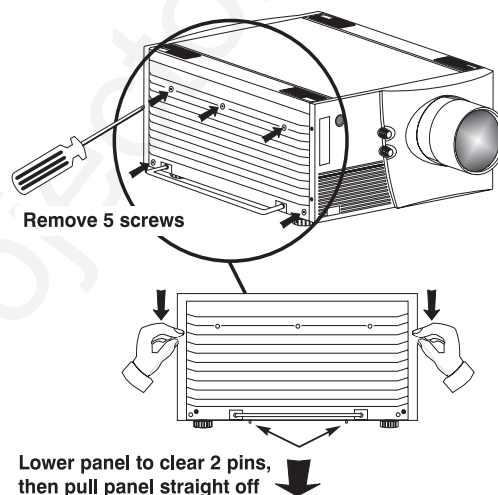

Figure 4.2. Remove the left side panel
- See Figure 4.2. Remove the 5 screws securing the projector's left side panel.